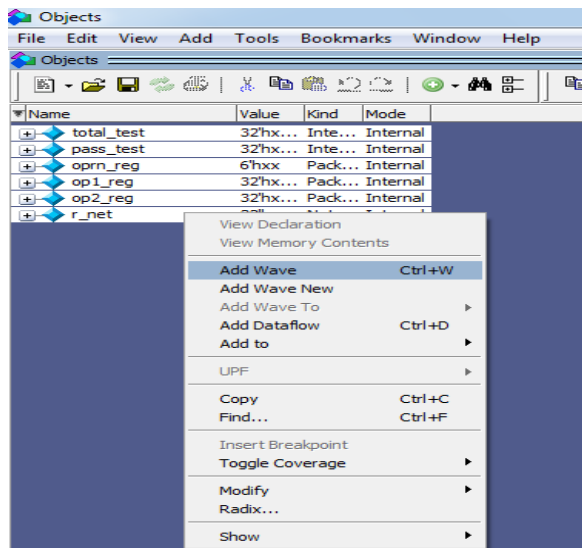

Figure 4.8 Object window
- 7) After opening 'prj_01_tb' file from above step, one 'Object' window will pop up as shown in figure 4.8 that includes all ALU modules input, output and test's name.